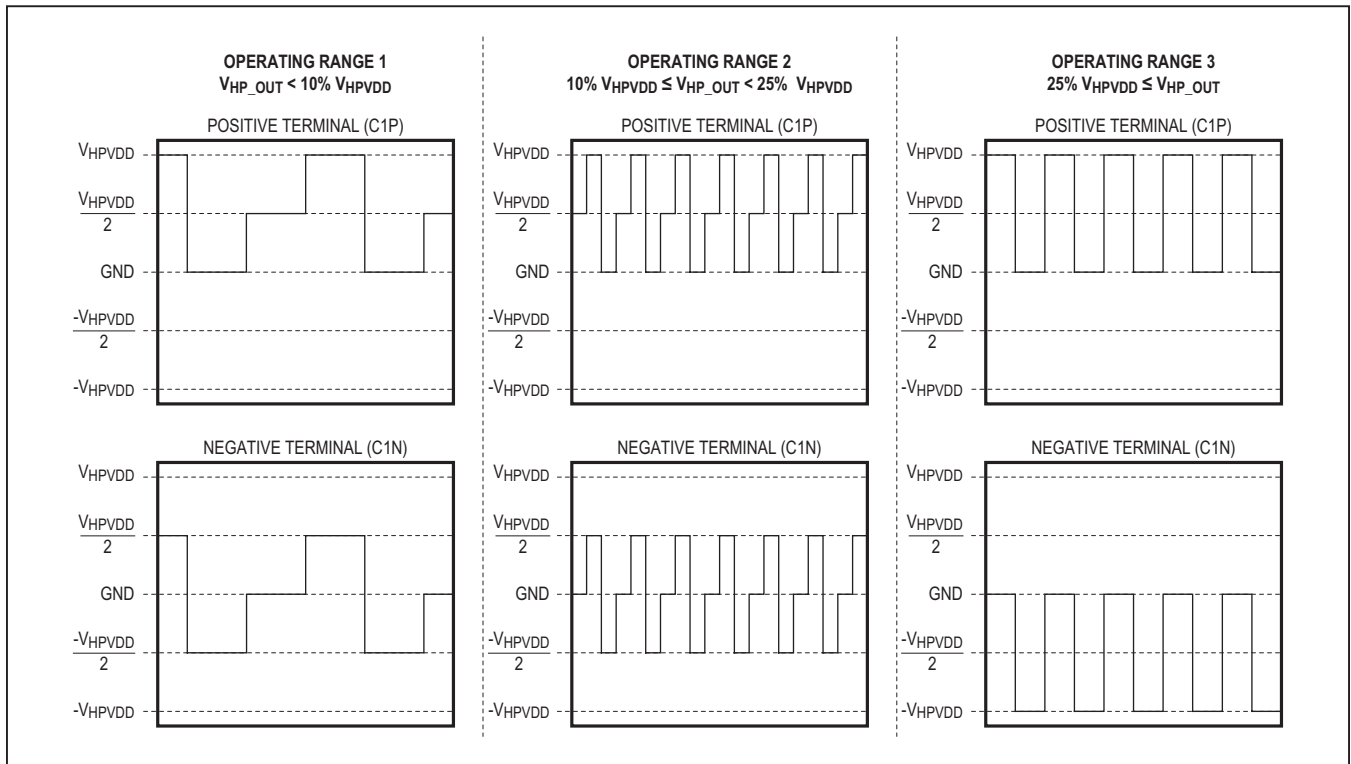

Figure 41. Class H Amplifier Charge Pump Operating Ranges
**Range 1 ( $V_{HP\_OUT} < 10\%$  of  $V_{HPVDD}$ ):** When the output signal level is less than 10% of HPVDD, the output signal swing is low and the power consumption for driving the headphone load is small relative to the charge pump quiescent consumption and switching losses. Therefore, to minimize switching losses, the charge-pump frequency is reduced to its lowest rate (~82kHz) and the bipolar output supply rails are set to half of HPVDD or  $\pm V_{HPVDD}/2$  (Figure 41, Range 1).
quiescent consumption and switching losses. To meet the increased load power requirements, the charge-pump switching frequency increases (~660kHz) while the bipolar output supply rails remain at half of HPVDD or  $\pm V_{HPVDD}/2$  (Figure 41, Range 2).
**Range 3 ( $25\%$  of  $V_{HPVDD} \leq V_{HP\_OUT}$ ):** When the output signal level exceeds 25% of HPVDD, the output signal swing is much wider. As a result, the charge pump now generates bipolar full HPVDD output supply rails ( $\pm V_{HPVDD}$ ). The switching frequency in this range is slightly lower (~500kHz). However, the increased voltage differential allows the headphone output driver to reach its maximum voltage swing and load driving capability (Figure 41, Range 3).